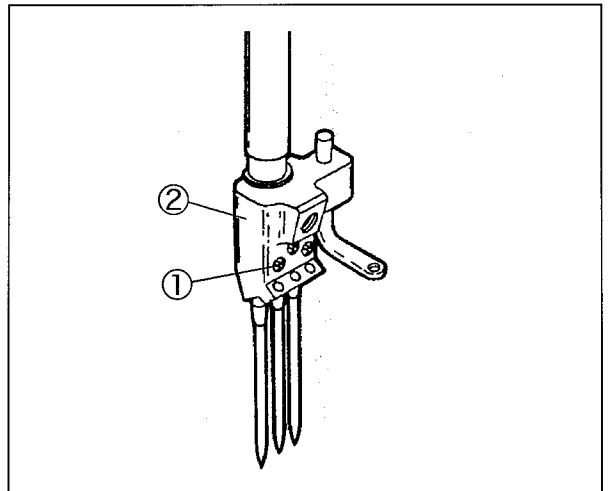
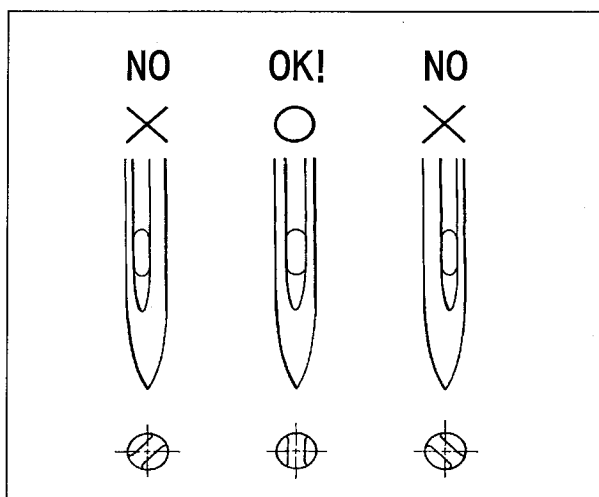

Fig. 23
Fig. 24
- (1) Loosen the screws① with a screwdriver. (Fig. 23)
- (2) Remove an old needle with a pair of tweezers.
- (3) Insert a new needle into the needle clamp② as far as it will go with facing its scarf to the right back. (Figs. 24 and 25)
- (4) Tighten the screws① with a screwdriver